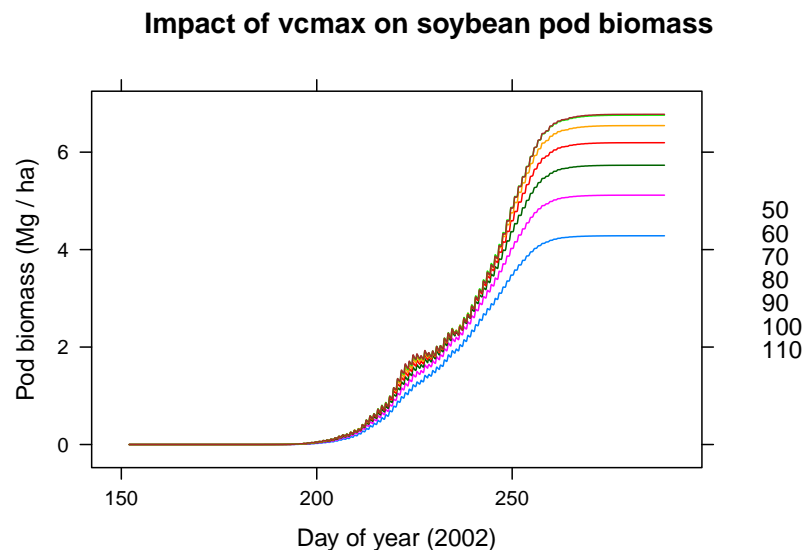

Figure 2: Soybean pod biomass throughout 2002 simulated with different values of  $v_{c,max}$ .
- Run the soybean simulation a few times with several different values of a key parameter (such as `vmax1`, which represents the maximum rate of carboxylation  $v_{c,max}$ ) and compare plots of the time evolution of the `Grain` quantity (representing the pod mass per unit area) in each of the scenarios. (See Figure 2 for a possible solution.)